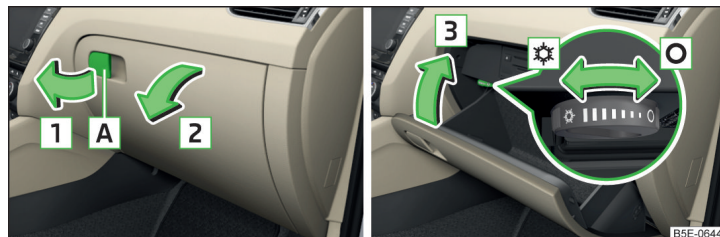

Fig. 89 **Open storage compartment / close storage compartment and open air supply**
- To **open**, pull the handle **A** in the direction of arrow **1** and fold the cover in the direction of arrow **2** » Fig. 89.
- To **open**, turn the rotary switch until it stops in the position  » Fig. 89.